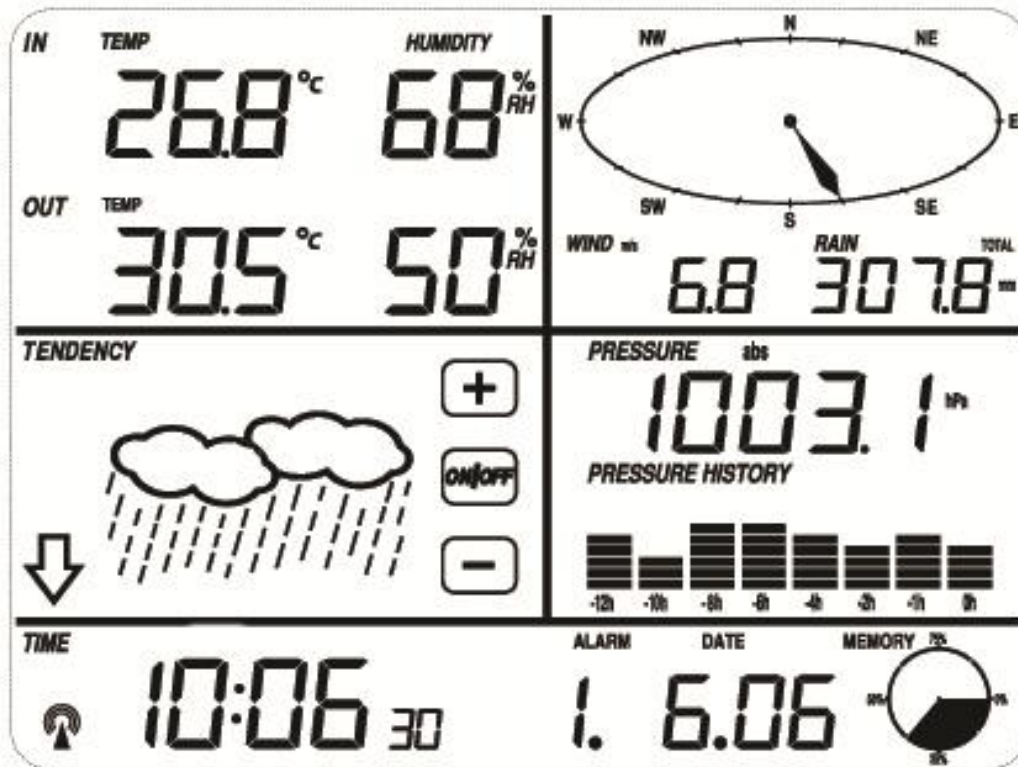

Figure 9
**Note:** All display console touch screen commands are issued by touching (not pressing) the related areas as shown in Figure 9. Pressing hard on the display console may damage the unit.